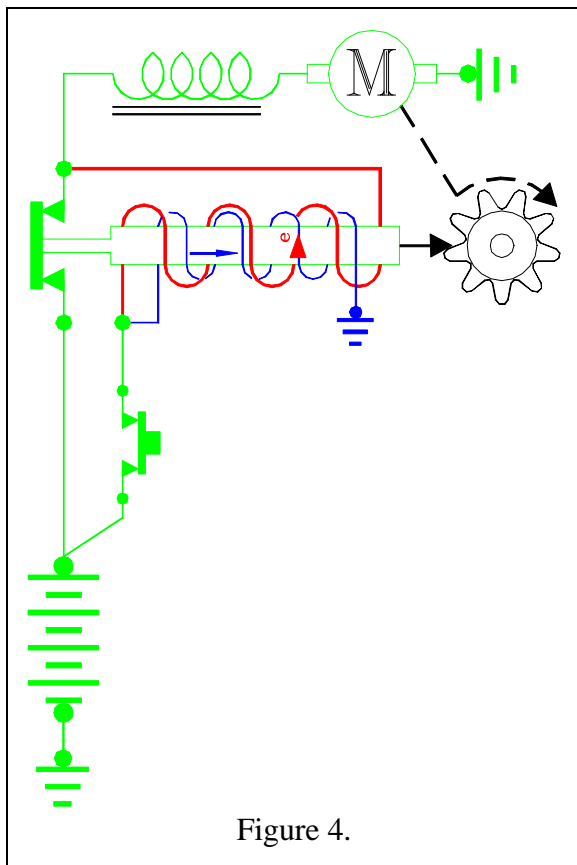

Figure 4.
After the pinion gear engages, the contactor closes and puts a short across the large-wire coil reducing its current draw to zero. The Figure 4 shows the contactor closed to (1) apply power from battery to the starter motor and (2) relieve starter push-button loading by about 25.